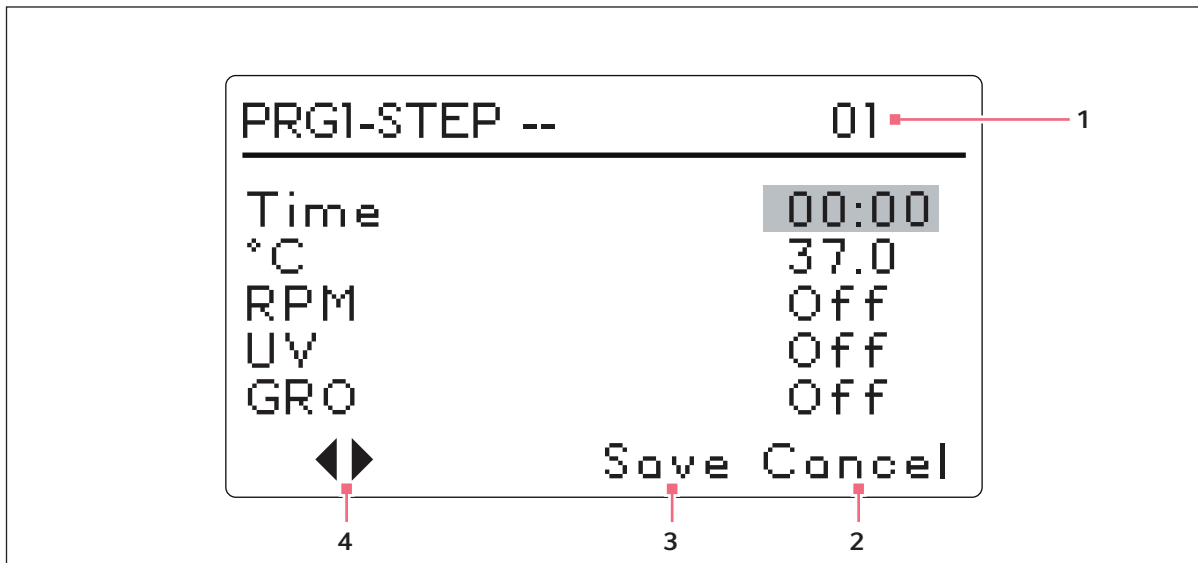

Fig. 5-12: Program 1, Step 1
2. Turn the Control Knob until the field says **New**. Click the Control Knob in to select this mode. The screen for Program 1 - Step 1 will open (see Fig. 5-12 on p. 53):